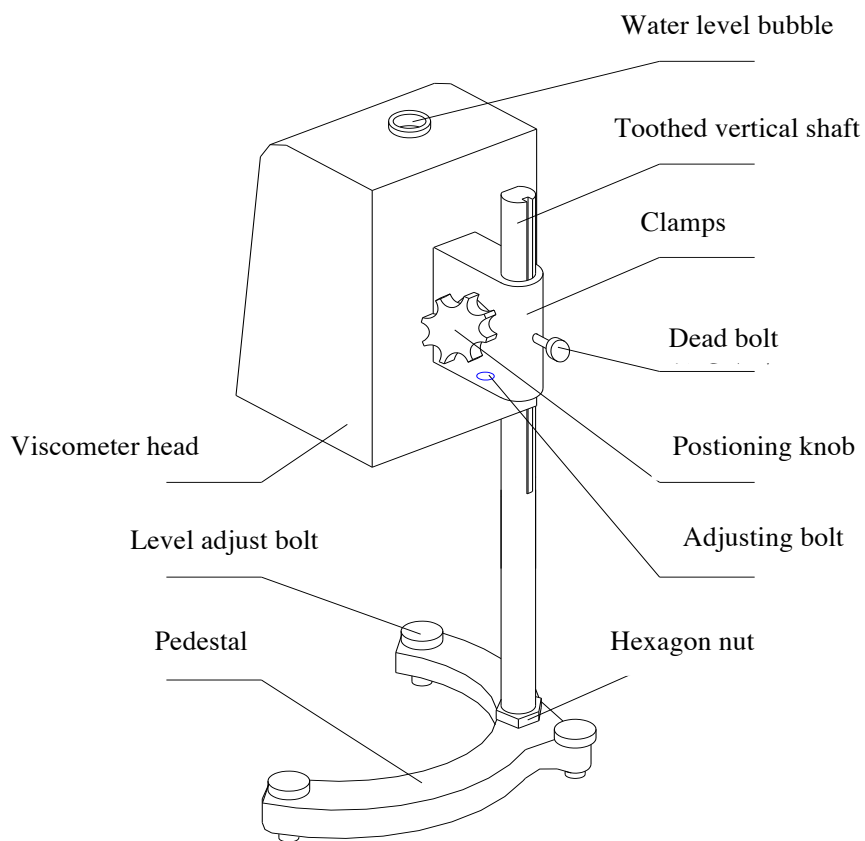

Figure 2
3. Screw the toothed vertical shaft in the screw hole on the pedestal of the main unit. The toothed surface should face to the front of the pedestal. Secure nut onto vertical shaft using a wrench, to avoid any rotation of the vertical shaft. (Figure 2)
4. Install the positioning knob for the viscometer head on the vertical shaft (Figure 2). Rotate the knob to move the viscometer head up and down. If the knob is too tight or too loose, adjust the bolt on the lower surface of the clamps. When moving the head of viscometer to a proper position, screw the dead bolt on the back of knobs to fasten the head of viscometer.